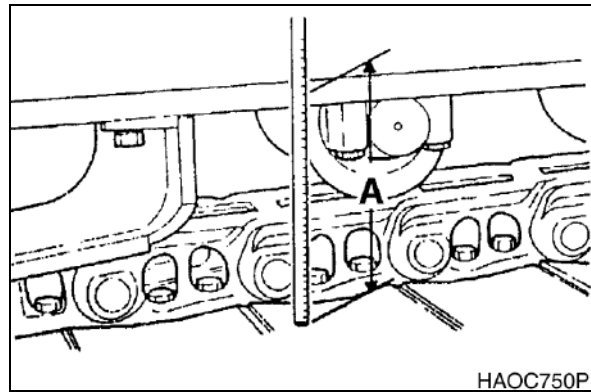

Figure 2
- Measuring the distance (A, Figure 2) between the bottom of the side frame and the top of the lowest crawler shoe. Recommended tension for operation over most types of terrain is 320 - 340 mm (12.60 - 13.38 in)